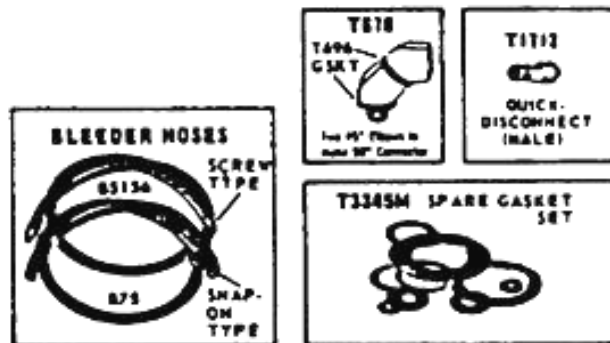

FIGURE 69. ADDITIONAL COMPONENTS
In addition to the adapters, the filler/bleeder comes with bleeder hoses, elbows, male and female quick-disconnects, and a spare gasket set, Figure 69.
- e. On the initial filling only, the hose should be bled using the male quick-disconnect fitting, part number T1712, Figure 69.
- c. Screw the quick-disconnect male fitting, part number T1712, Figure 69, into the adapter on the master cylinder and hand tighten.